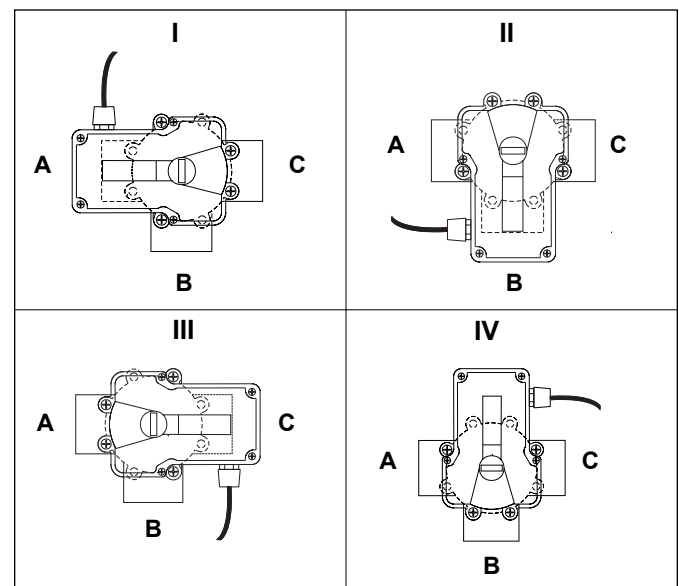
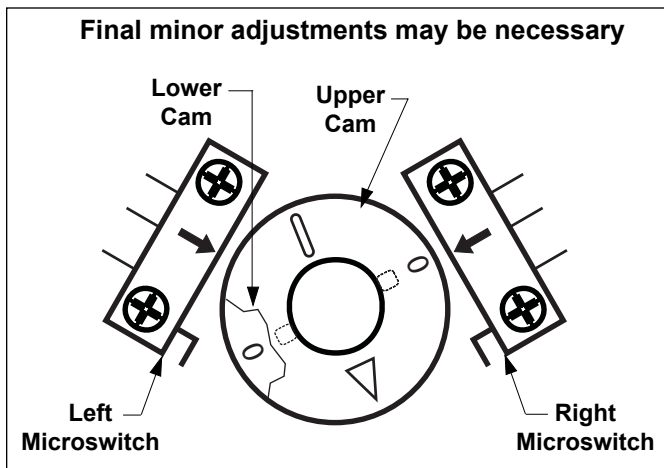

Figure 9. JVA Mounting Positions.
Figure 10. JVA Cams
NOTE Before resetting cams, if the valve is plumbed in **Standard Plumbing** position *and* the actuator is in **Standard Mounting** position *there is no need for resetting the cams* (see Figure 9). If a port other than "B" is plumbed as the common port or if the actuator is mounted other than **Standard Mounting**, the cam setting must be changed so the actuator shaft and the valve diverter rotate properly. Refer to the Cam Setting Chart on page 8 for proper settings.
2. Remove the four (4) Phillips head screws that secure the actuator lid and then remove the lid.
3. **Important** - Rotate the actuator shaft so the arrow mark on the top cam aligns with the microswitch actuator (bottom cam arrow mark should also align with the bottom microswitch actuator, see Figure 10). Locate the mounting position for the actuator (as per Figure 9, the mounting position will be either I, II, III, or IV). Next, determine what valve port is the common or inlet port (as per Figure 9, the common port will be either A, B, or C). Then refer to the Cam Setting Chart below to determine what the cam settings should be. For example, if the actuator is in JVA mounting position "I", and the common port on the valve is port "A", the cam settings would be 90° for the top cam and 180° for the bottom.